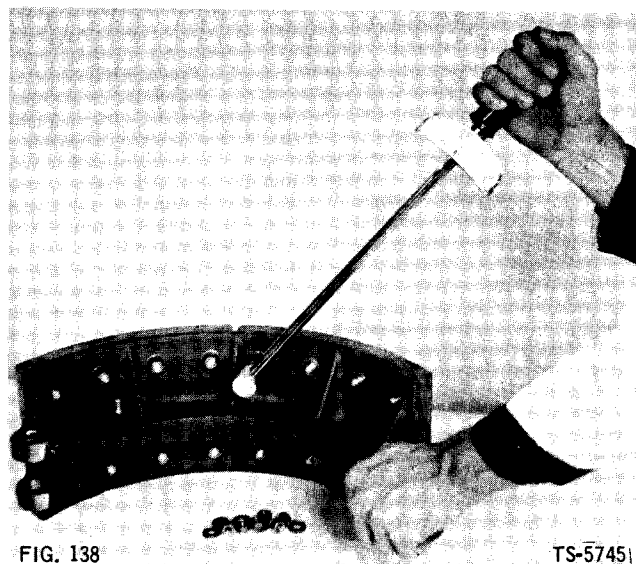
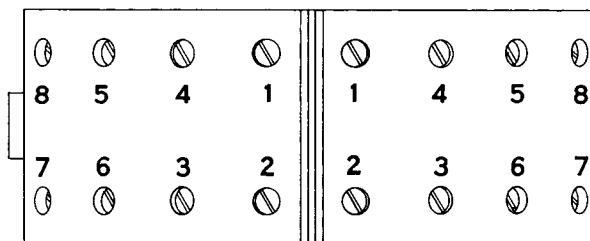

FIG. 138
FIG. 139
1. Install brake linings on brake shoes with washers and nuts. Torque nuts to 200 to 220 in. lbs. (Fig. 138). Tighten nuts in sequence shown in Fig. 139.